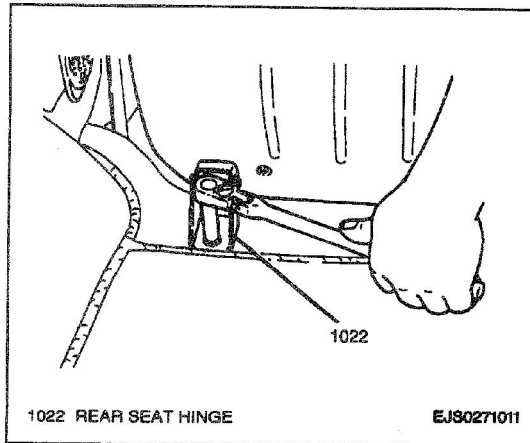

Figure 13—Rear Seat Anchor Bolt Removal
1. Rear seat belt retractor mechanism to vehicle; secure with one screw and one bolt (Figure 13).
1. One rear anchor bolt from each rear seat hinge (Figure 13).